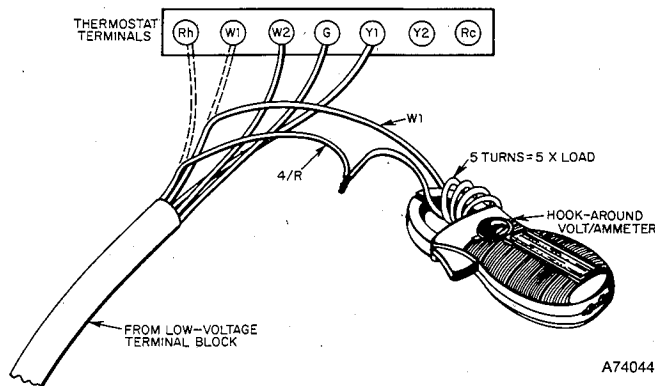

Figure 7—Determining Heat Anticipator Setting
Figure 7 shows the proper use of a hook-around ammeter to determine the load. This illustration shows the circuit with five turns around the jaws of the ammeter. Five turns should be used to obtain an accurate reading.
1. Disconnect lead from thermostat terminal W1 and make five turns around ammeter jaws. See Figure 7.
2. Disconnect lead from thermostat terminal Rh and connect to W1 as shown in Figure 7.
NOTE: For accurate load calculations, the ammeter readings should be taken at the thermostat as shown in Figure 7. The thermostat hookup leads must be in the circuit when taking these readings.